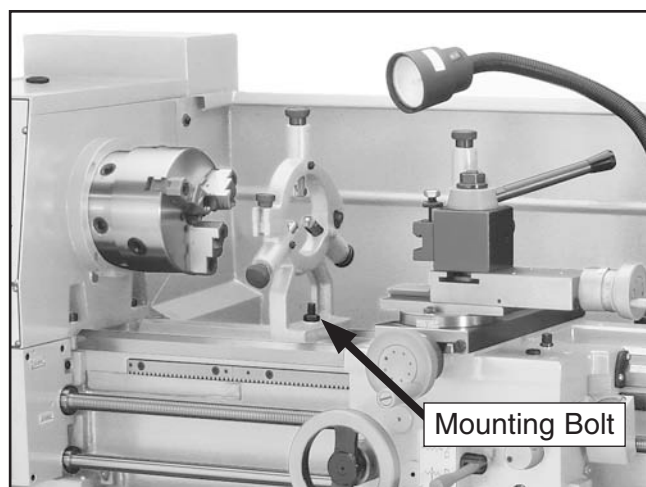

Figure 24. Steady rest in place.
1. Secure the steady rest to the bedway from below with the locking plate, then snug the mounting bolt (**Figure 24**).